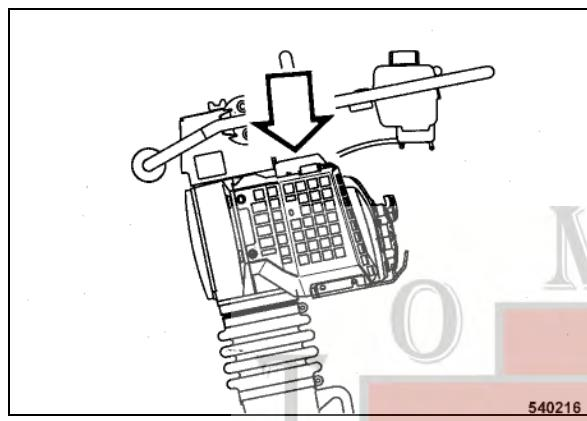

Fig. 43 □
- Remove the top engine cover (Fig. 43).